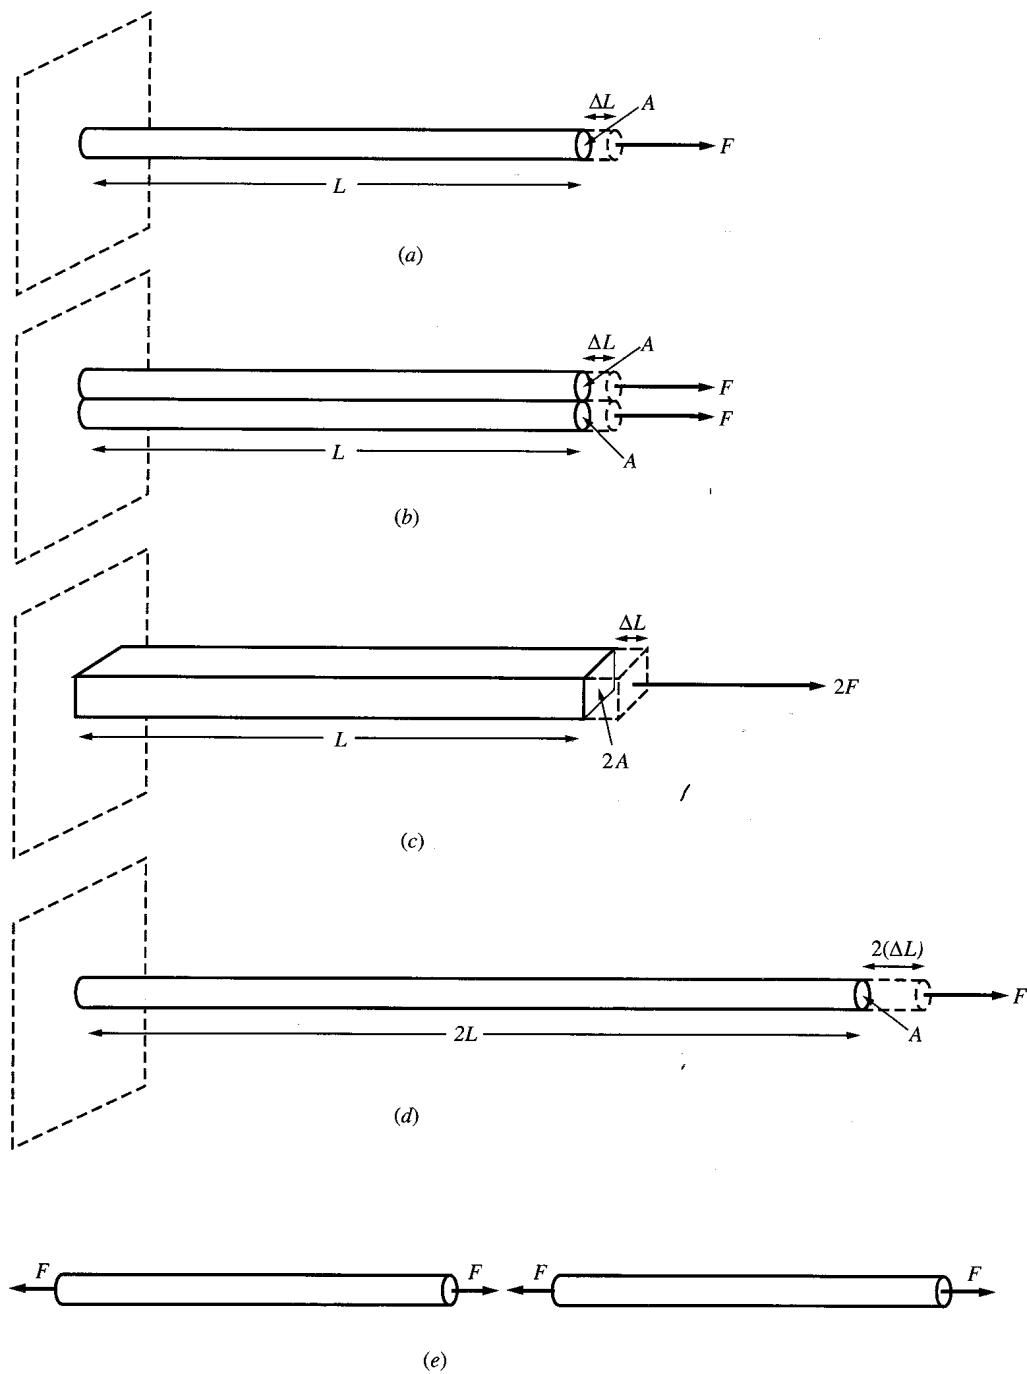

Fig. 11-1
Consider a horizontal rod of unstretched length  $L$  and cross-sectional area  $A$ , with one end firmly attached to a very strong wall. A horizontal force of magnitude  $F$  is applied to the other end, as shown in Fig. 11-1(a). (Since the rod remains attached to the wall, it is in equilibrium, and the wall exerts an equal and opposite force on the rod.) One would expect that under these circumstances the rod would stretch somewhat, with the amount of stretch depending on the strength of the force  $F$ . Let  $\Delta L$  represent the amount of stretch. For a given force  $F$ , the stretch  $\Delta L$  will depend on the intrinsic nature of the rod, i.e., the material of which it is made. It also will depend on the particular length and cross-sectional area of the rod in question. We would like to describe the stretching effect of a force on a rod in a way that doesn't depend on the particular cross section of the rod or on its length but only on the material of which it is made. We do this by defining the *stress* and the *strain*.
It is easy to see that the greater the area of our rod the greater the force necessary to get the same stretch. Indeed if we were to put another identical rod alongside the first and consider them as a unit, as shown in Fig. 11-1(b), a force  $F$  on the end of each would be needed to have the combination stretch the same  $\Delta L$  as the single rod. If we had a single rod of the same length and cross-sectional area  $2A$ , as shown in Fig. 11-1(c), we would need the force  $2F$  to stretch it by  $\Delta L$ . Thus the force needed for a certain stretch is proportional to the cross-sectional area of the rod. If we define the **stress** as the ratio of the force to the cross-sectional area, we have a quantity that measures the effectiveness of a force in accomplishing a given stretch, independent of the cross-sectional area of the rod. To illustrate, we note that for the case of Fig. 11-1(a), we have  $\text{stress} = F/A$ . For the case of Fig. 11-1(c), we have  $\text{stress} = 2F/2A = F/A$ . As we see, the stress is the same in both cases and gives rise to the same amount of stretch  $\Delta L$ . The stress thus measures the effect of a force in stretching a rod without regard to how “thick” the particular rod is. The dimensions of stress are force per area (the same as for pressure). The SI unit of stress is the newton per square meter ( $\text{N/m}^2$ ). This is given the special name the *pascal*:  $1 \text{ Pa} = 1 \text{ N/m}^2$ . Other common units are  $\text{dyn/cm}^2$ ,  $\text{lb/ft}^2$ , and  $\text{lb/in}^2$ .
- (a) If the cross-sectional area of the rod in Fig. 11-1(a) is  $A = 2.50 \times 10^{-4} \text{ m}^2$  and the force is  $F = 300 \text{ N}$ , what is the stress?
We now turn to the effect of the length of the rod. If we had a rod of the same cross section as in Fig. 11-1(a) but of twice the unstretched length, the force  $F$  would stretch it twice as much; i.e., the
extension would be  $2\Delta L$ , as shown in Fig. 11-1(d). To understand this, we consider the unstretched rod of length  $2L$  to be made up of two equal sections, each of length  $L$ , as shown in Fig. 11-1(e). When the force  $F$  is applied, each half is under the action of equal and opposite forces at its two ends, because each is in equilibrium. By Newton's third law the magnitude of the forces on one half must be the same as those on the other half. Thus each half undergoes the same stretch  $\Delta L$ , and the complete rod undergoes the stretch  $2\Delta L$ , as claimed. A given force will, therefore, cause a stretch that is proportional to the length of the unstretched rod. We define the **strain** as the ratio of the change in length of the rod to the unstretched length of the rod; for example,  $\Delta L/L$  for the case of Fig. 11-1(a). As we have just seen, the strain due to a given force will be the same for any length rod of the same material and cross section. This is illustrated by comparing Fig. 11-1(a) and (d), where the force  $F$  is the same, and the strain is  $\Delta L/L$  in the first case and  $2\Delta L/2L = \Delta L/L$  in the second case. The strain is thus a measure of the stretch of a rod that is independent of the length of the rod. Note that strain is dimensionless, since it is the ratio of two lengths.
- (a) Assume that the rod in Fig. 11-1(a) obeys the conditions of Problems 11.1(a) and 11.2. Find the Young's modulus for the material of which the rod is made.